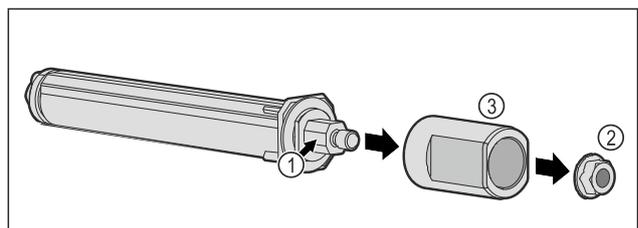

Fig. 46
- ▶ Do not disassemble the door locking system Fig. 46 (1).
- ▶ Remove the Fig. 46 (2) nuts.
- ▶ Take off the Fig. 46 (3) sleeve.